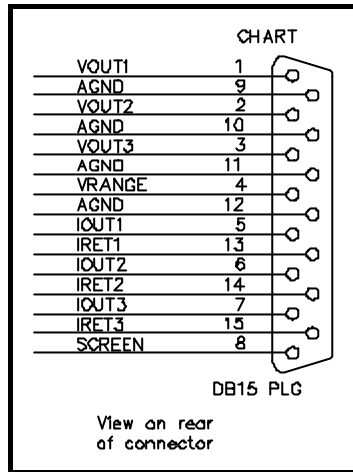

Figure 4 Chart Pin Allocations
3.6.2 The connector pin allocations are shown in Figure 4. Not all pins are used.